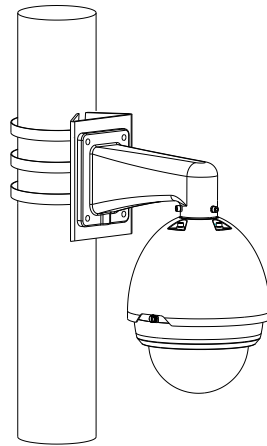

Figure 5-3
Step 2 Please refer to chapter 1.3 for detailed installation information. See Figure 5-3 for the complete installation of Speed dome.